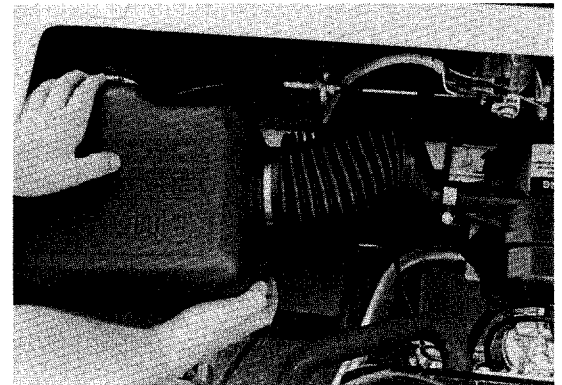

Figure 14-25
7. Loosen air intake expansion chamber at choke assembly and remove air intake expansion chamber from choke (Figure 14-25).